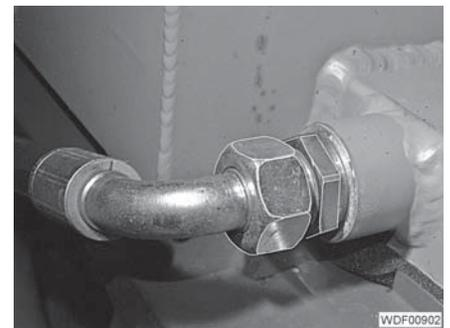

Fig. 79 Hydraulic line
- Screw the hydraulic line (Fig. 79) onto the connection on the radiator and tighten it.